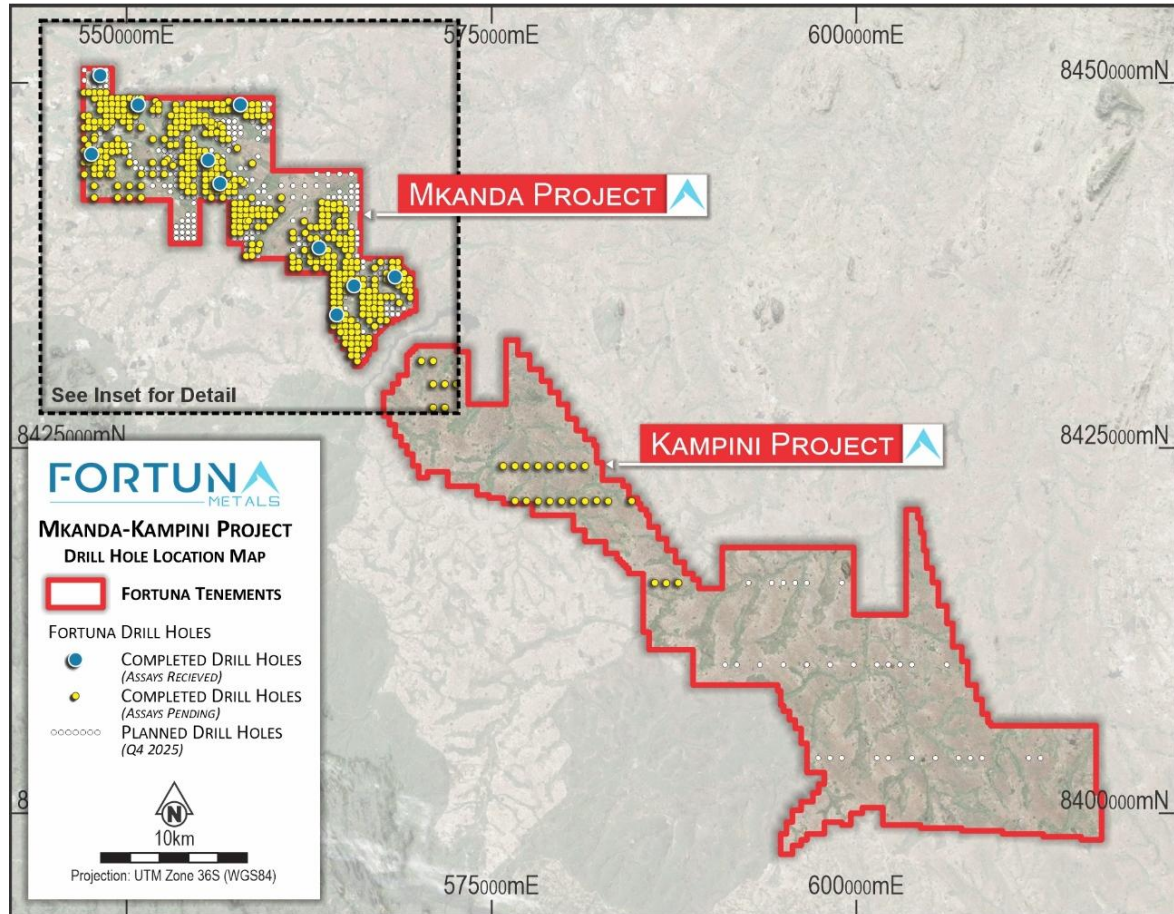

Figure 2. Drilling completed (yellow dots) and drilling planned for Q4, 2025 on 400 and 800m grids (white dots).
- **High grade results demonstrate potential for large areas of the Mkanda project to host rutile mineralisation with 544 drillholes completed at Mkanda to an average depth of 8m, Figure 2**